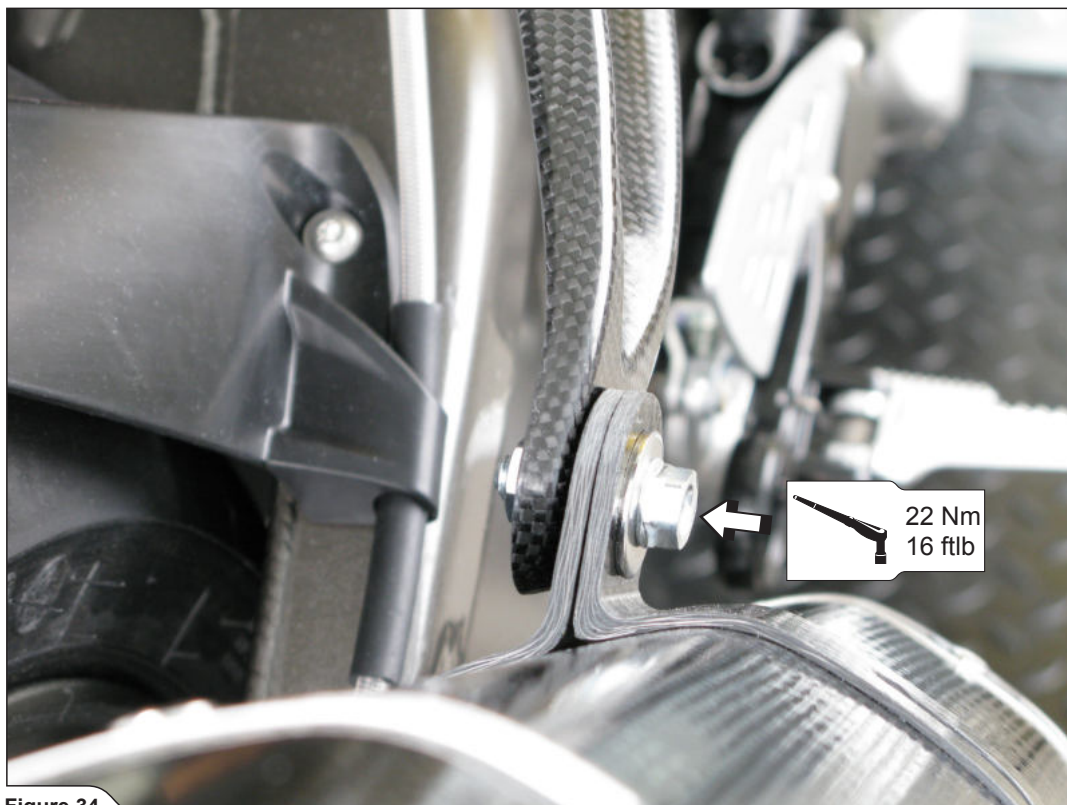

Figure 34
17. For optional carbon-fiber muffler bracket only: align the muffler in respect to the motorcycle and tighten the muffler clamp using Akrapovič bolt, washers and nut as shown (Figure 34).